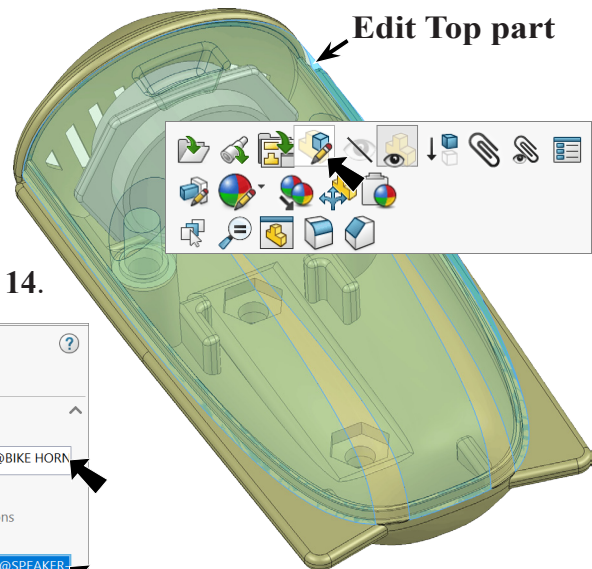

Fig. 12
Step 1. Click **Top** component in the graphics area and click **Edit Part**  on the context toolbar, **Fig. 12**. Click part were **Bottom part is not behind Top part**.